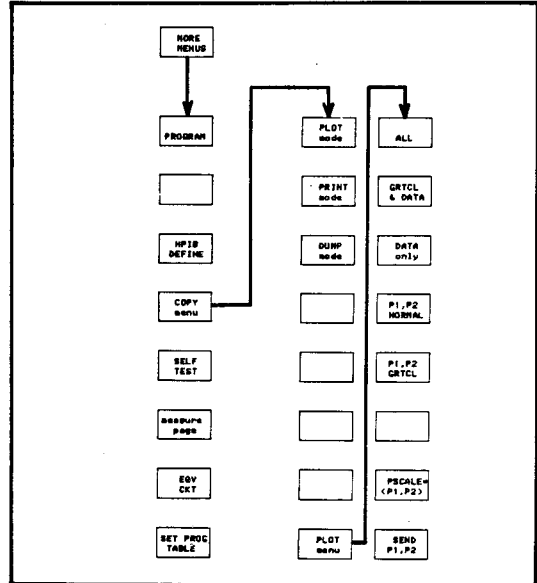

Figure 3-153. COPY and PLOT menus
3. Press the **MORE MENUS** key, and select the 'COPY menu' softkey, the **COPY** menu will be displayed in the Menu Area of the screen as shown in Figure 3-153.
5. If a plotter is connected, select the 'PLOT mode' softkey, and press the 'PLOT menu' softkey. The **PLOT** menu will now be displayed as shown in Figure 3-153.